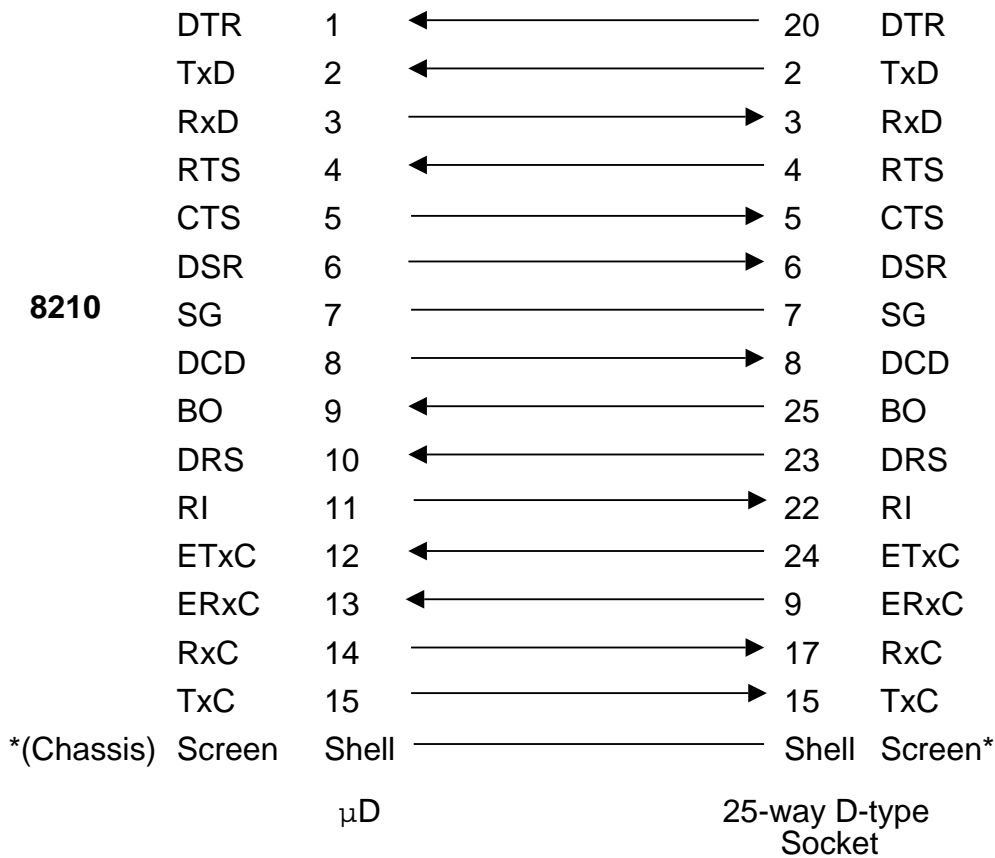

Figure B-2 V.24 Interconnect Cable
- (1) 8210 Card to DTE (e.g. terminals) use cable X890-409911, Figure B-2 or stub cable X890-411111.
- (4) 8210 Card composite to 8210 Card ports 1 to 9 use cable X890-410311, Figure B-2. (This cable is the same as (1) but shorter in length.)